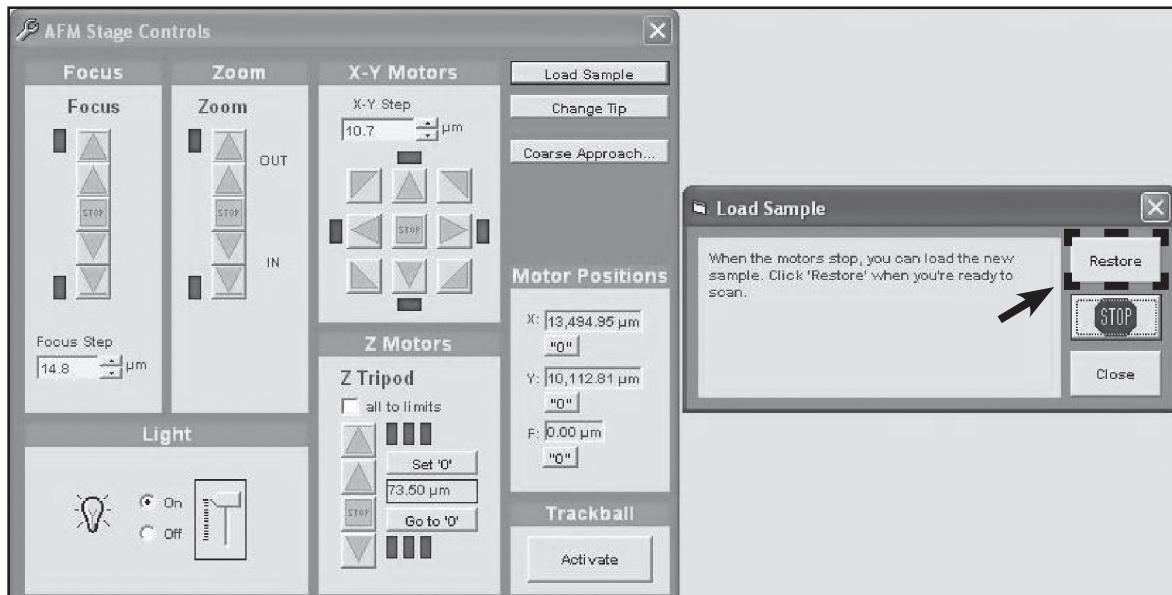

Figure 2.23: Return Sample Puck to initial X-Y position
9. Click the Restore button on the Load Sample window. The motorized X-Y stage will return the puck to its original position. (Figure 2.23)